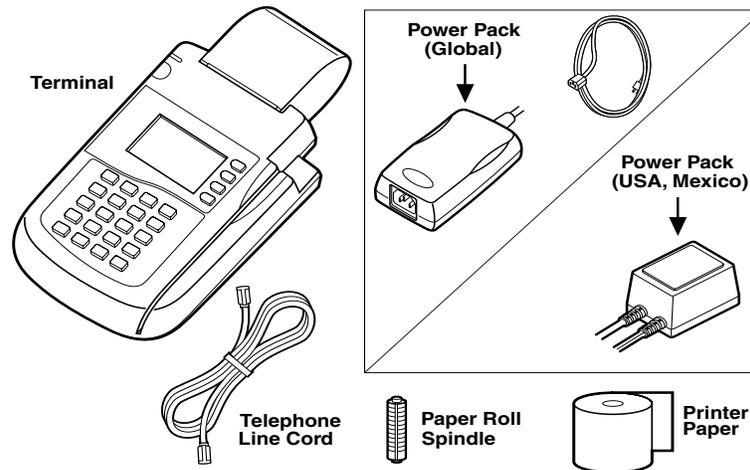

Figure 1 Omni 3300 Product Components
1. Open the shipping carton and carefully inspect its contents for possible shipping damage (Figure 1).